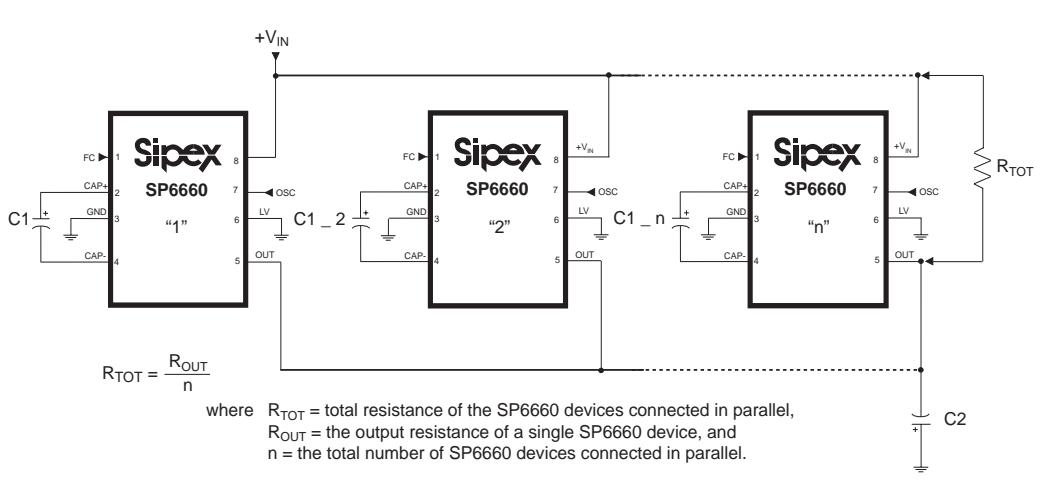

Figure 26. SP6660 Devices Connected in Parallel to Reduce Output Resistance
**SP6660** devices can be connected in parallel to reduce the total output resistance. The approximate total output resistance,  $R_{\text{TOT}}$ , of the multiple devices connected in parallel is equal to the output resistance of an individual **SP6660** device divided by the total number of devices connected. Refer to *Figure 26* for the circuit connecting multiple **SP6660** devices in parallel. Note that only the charge pump capacitor value of  $C_1$  is multiplied respectively by the number of **SP6660** connected in parallel. A single capacitor  $C_2$  at the output voltage  $V_{\text{OUT}}$  of the "nth" device connected in parallel serves all devices connected.